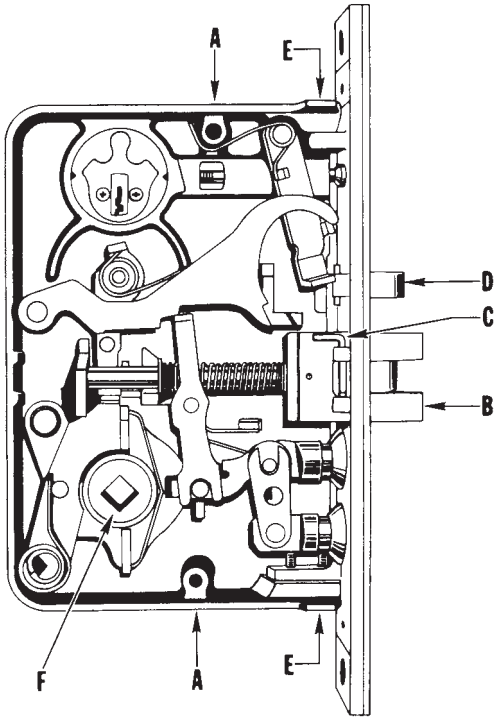

Figure 13.37 Reversing the hand.
1. Refer to Figure 13.37. Unfasten the two cap screws (A) and remove the cap.
2. Reverse the latchbolt (B). If the lock has an antifriction latch, first remove the L-shaped pin (C) and reinstall it on the opposite side after reversing the bolt. Hold the short leg against the side of the case with the pressure-sensitive decal.
3. Reverse the auxiliary latch (D) if an auxiliary latch is furnished. To do this, first remove the auxiliary latch lever and spring, then invert the latch so